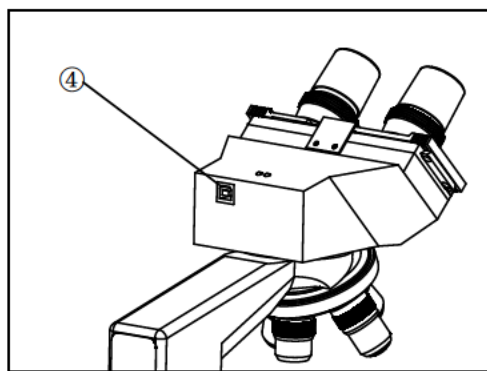

Fig.13
2.2.8 Taking photograph and video (Fig.13)